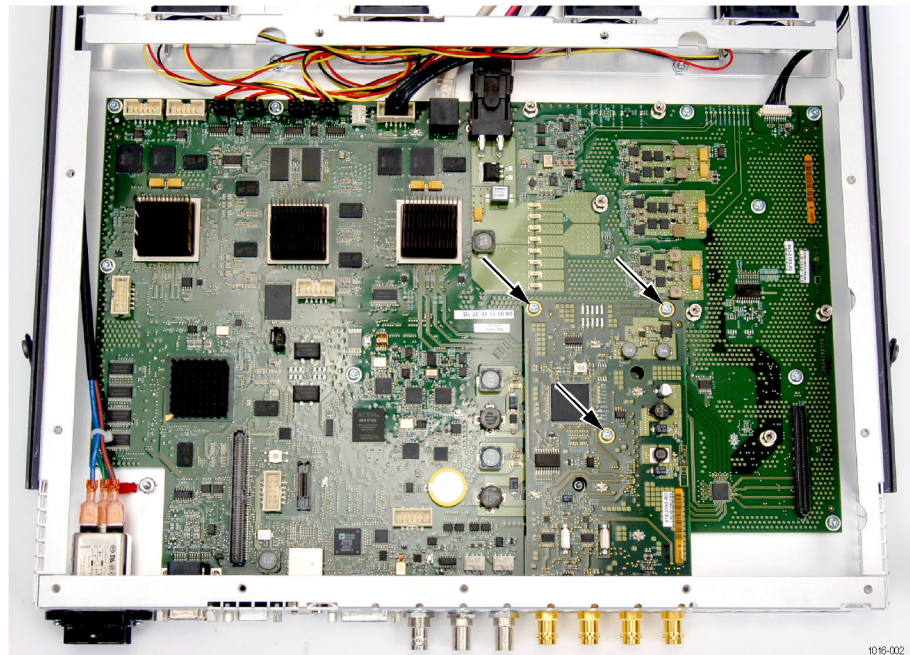
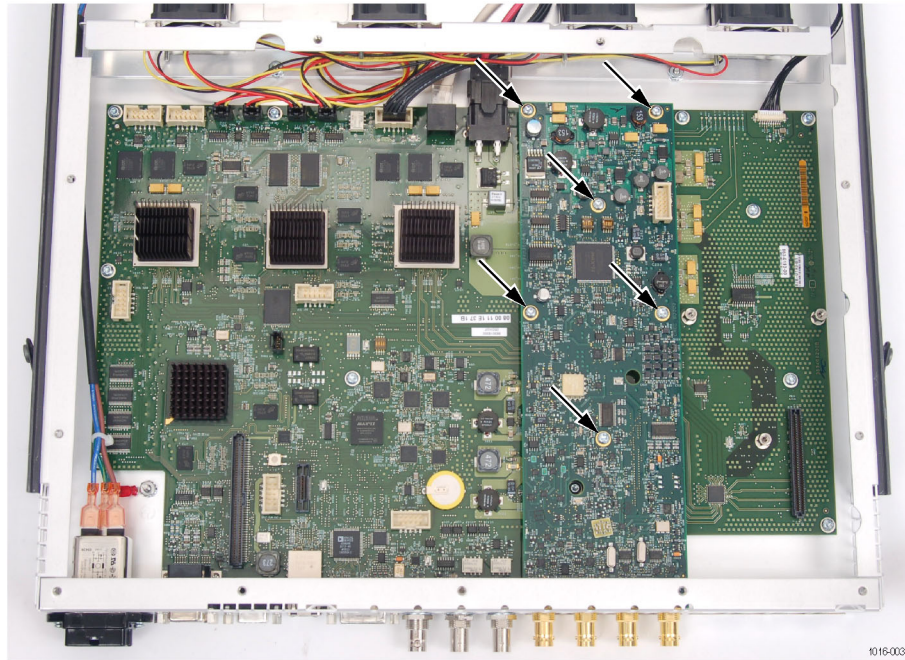

Figure 3: SDI board
Figure 4: Option EYE or PHY board
Remove the retaining screws securing the video board to the main board. If removing an SDI video board, there are three screws to remove. (See Figure 3.) If removing an existing EYE or PHY option video board, there are six screws to remove. (See Figure 4.)
- c.** Secure the video board to the six mounting posts with the six T-15 screws from the kit. Tighten firmly, but not excessively. (See Figure 4.)